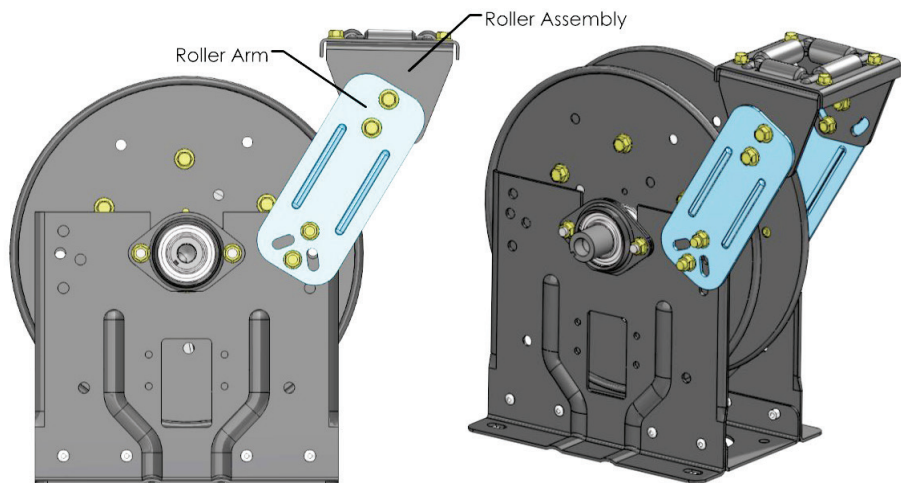

Figure 12 - Reel with Rollers in the “VR” Position
4. Swing the Roller Bracket up to the VR position (Figure 12) until the holes on the roller arms line up with the holes in the frame. Replace and tighten the bolts.
6. Rotate the roller assembly so that it is pointed in the same direction as shown in Figure 12.